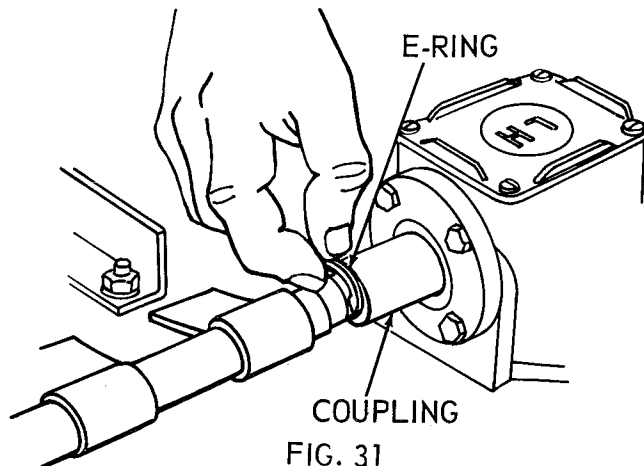

FIG. 31
2. Refer to Fig. 31. Remove two E rings from both ends of shaft and pulley assembly.